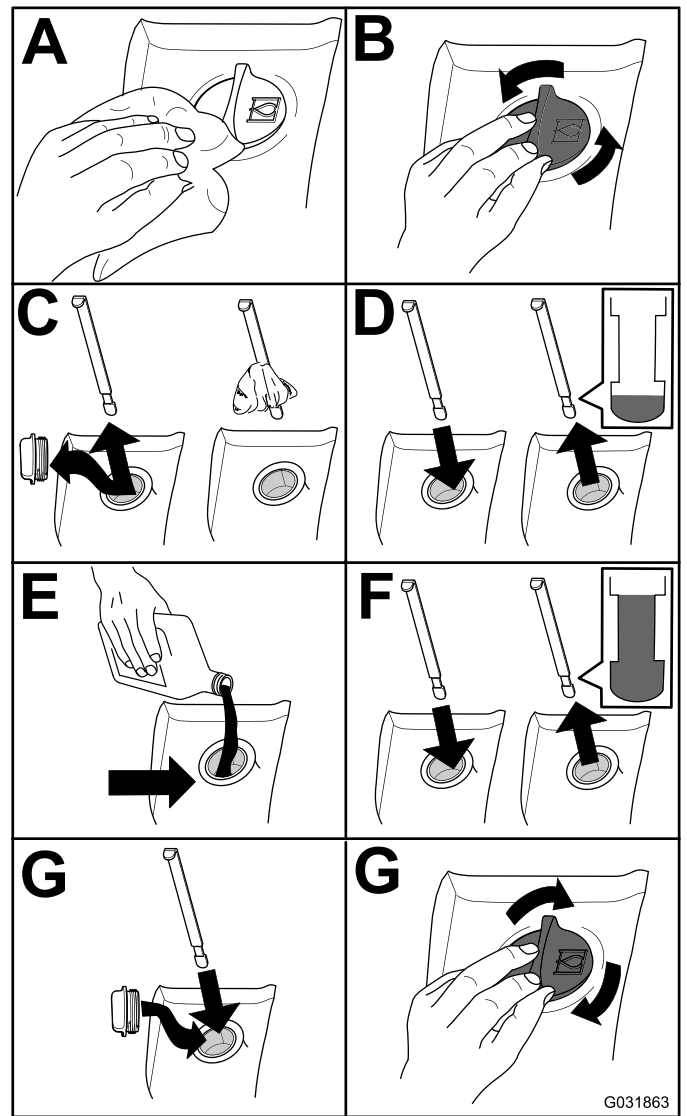

Figure 101
2. Check the hydraulic-fluid level (Figure 101).